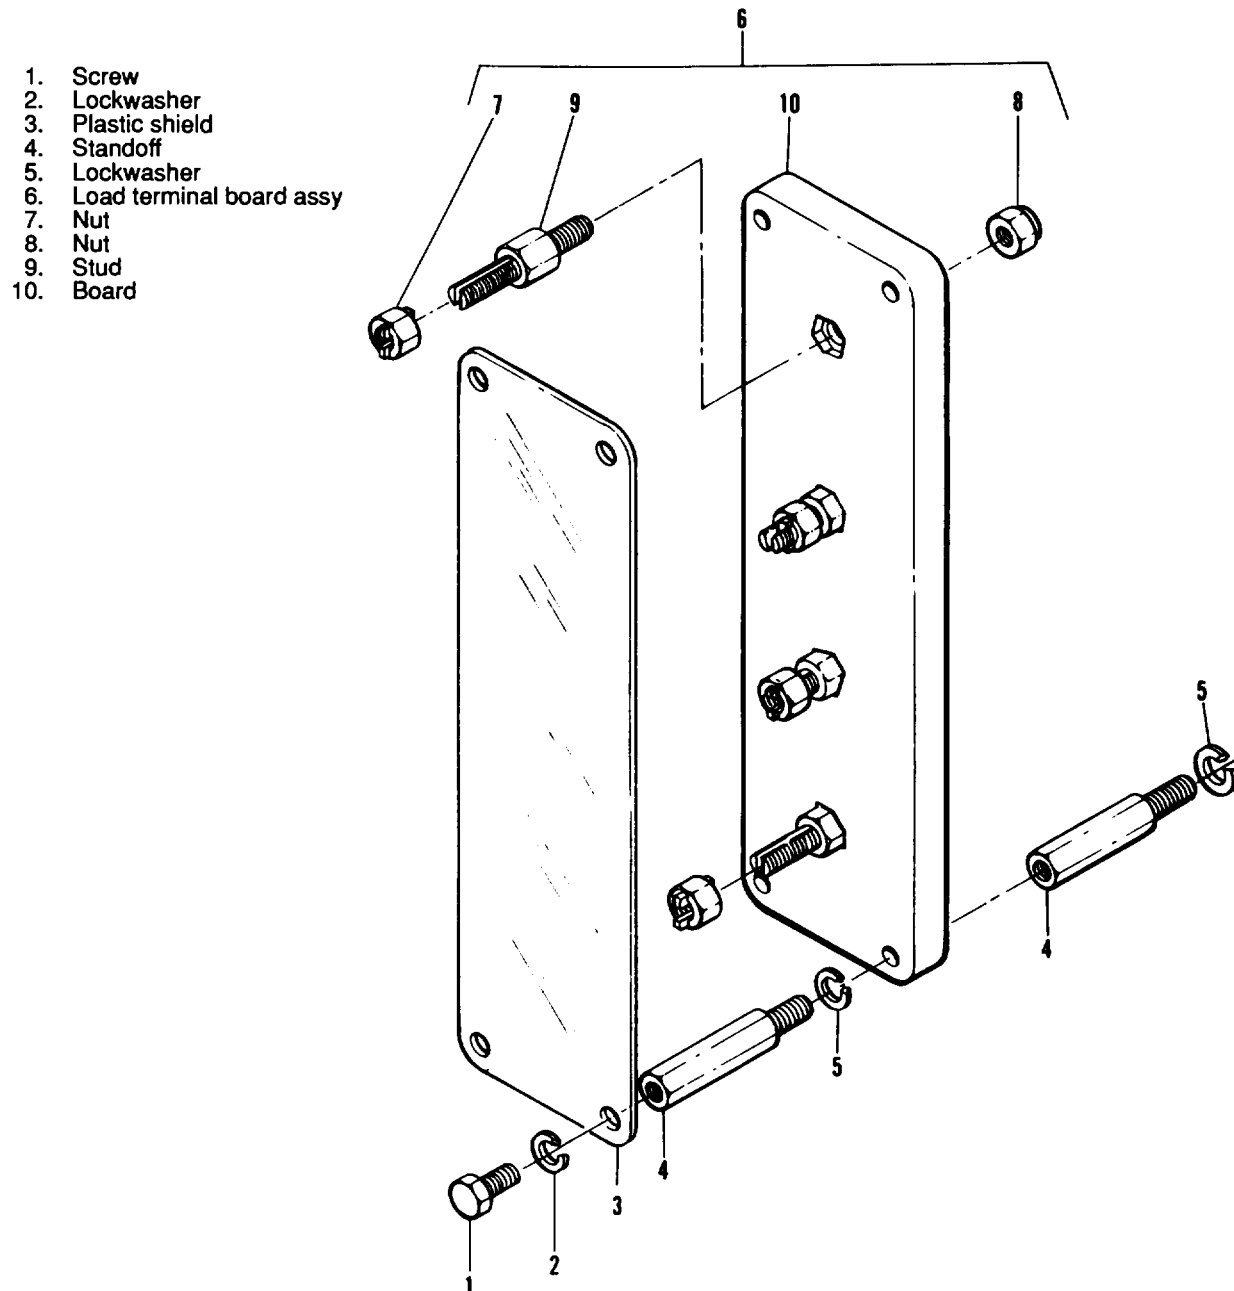

Figure 3-106. Load Terminal Board Assembly, Exploded View
- (1) Tag and disconnect electrical leads to load terminal board assembly.
- (2) Remove screws (1, figure 3-106), lockwashers (2) and plastic shield (3).
- (3) Remove stand-off (4) and lockwashers (5) to remove load connection terminal board assembly (6).
b. Disassembly. Remove nut (7, figure 3-106), nut (8), stud (9) and board (10).
- (1) Clean load terminal board with filtered compressed air and a soft bristle brush.
- (2) If necessary, wipe load terminal board assembly with a clean, lint-free cloth moistened with an approved solvent.
- (3) Inspect load terminal board for warping, cracks, damaged threads, corroded terminals, and burns.
- (4) Replace any damaged or defective parts.
d. Assembly. Position board (10, figure 3-106) to install stud (9), nut (8), and nut (7).
- (1) Position load terminal board assembly (6, figure 3-106) to install lockwashers (5) and standoff (4).
- (2) Install plastic shield (3), lockwashers (2) and screws (1).
- (3) Connect electrical leads to load terminal board assembly.